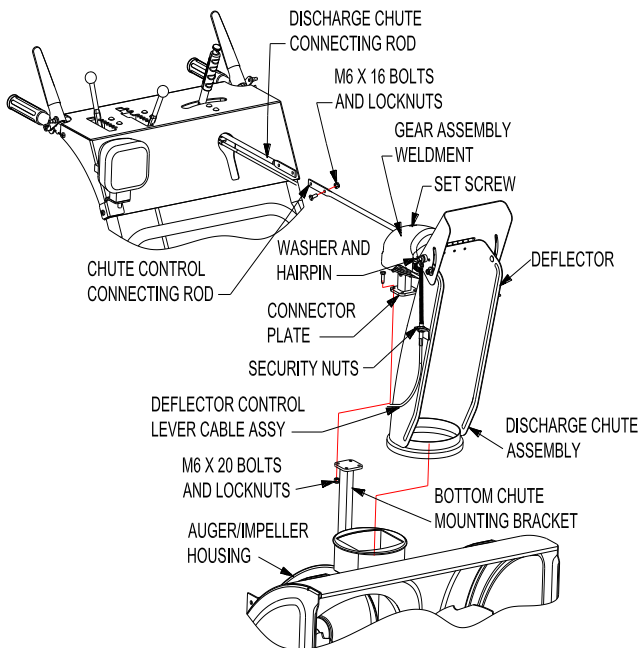

FIG 4
2.6.4 Thread deflector control lever cable assembly through cable support wires. Connect eyelet of deflector control lever cable to stud located on deflector; add washer and insert hairpin. Insert cable into slot on side of chute and tighten security nuts. Ensure that the control lever end of cable on handle assembly is inserted into hole provided and security nuts tightened. (FIG 4)